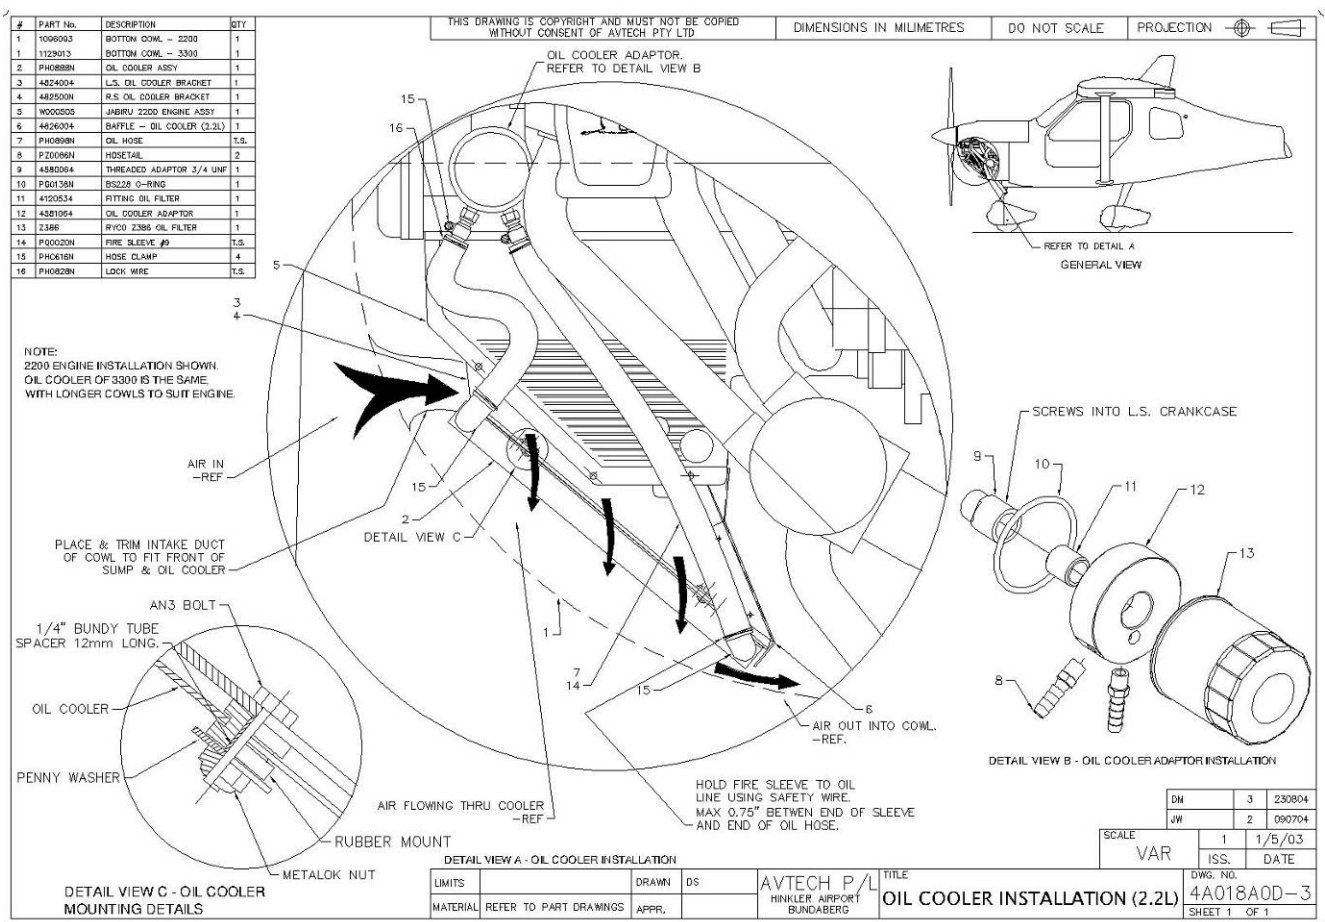

Figure 55. Oil Cooler Installation
- Figure 55 shows an oil cooler installation of a Jabiru 2200. Note Detail C in the lower corner of the drawing, which shows the cooler being fitted using rubber mounts. This is very important as it insulates the cooler from engine vibrations – coolers installed with a soft mount like this are much less likely to fail in service.